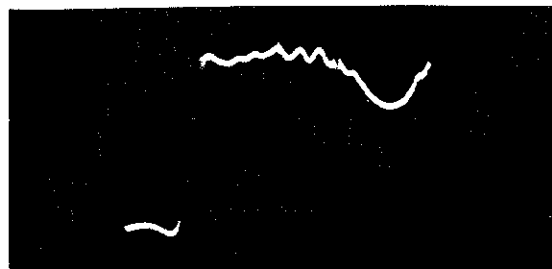

Fig. 48 Visual Amplifier: Correct Bandpass with 500-Foot Transmission-Line Feed to Antenna
21. The Visual Amplifier is now ready for normal operation into the antenna. It may or may not be desirable to make minor readjustments of the circuit alignment when changing from the dummy load to the antenna, depending upon the particular standing-wave ratios which are encountered. See Fig. 48 for the correct bandpass when feeding an antenna with 500 feet of transmission line.